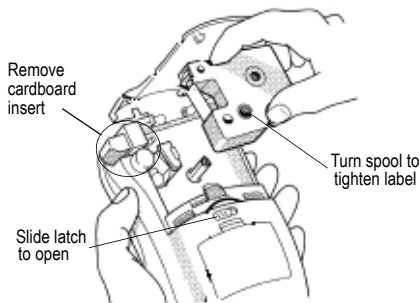

Figure 3
1. Slide the latch to open the label cassette door. See Figure 3.
2. Make sure the label and ribbon are taut across the mouth of the cassette and that the label passes between the guideposts. If necessary, turn the spool clockwise to tighten the label. See Figure 3.